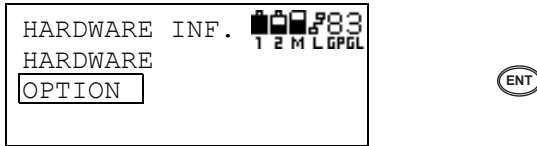

Figure 3-131. Select Option and Press Enter
- On the Hardware Information screen, select **OPTION** and press **ENT** (Figure 3-131).